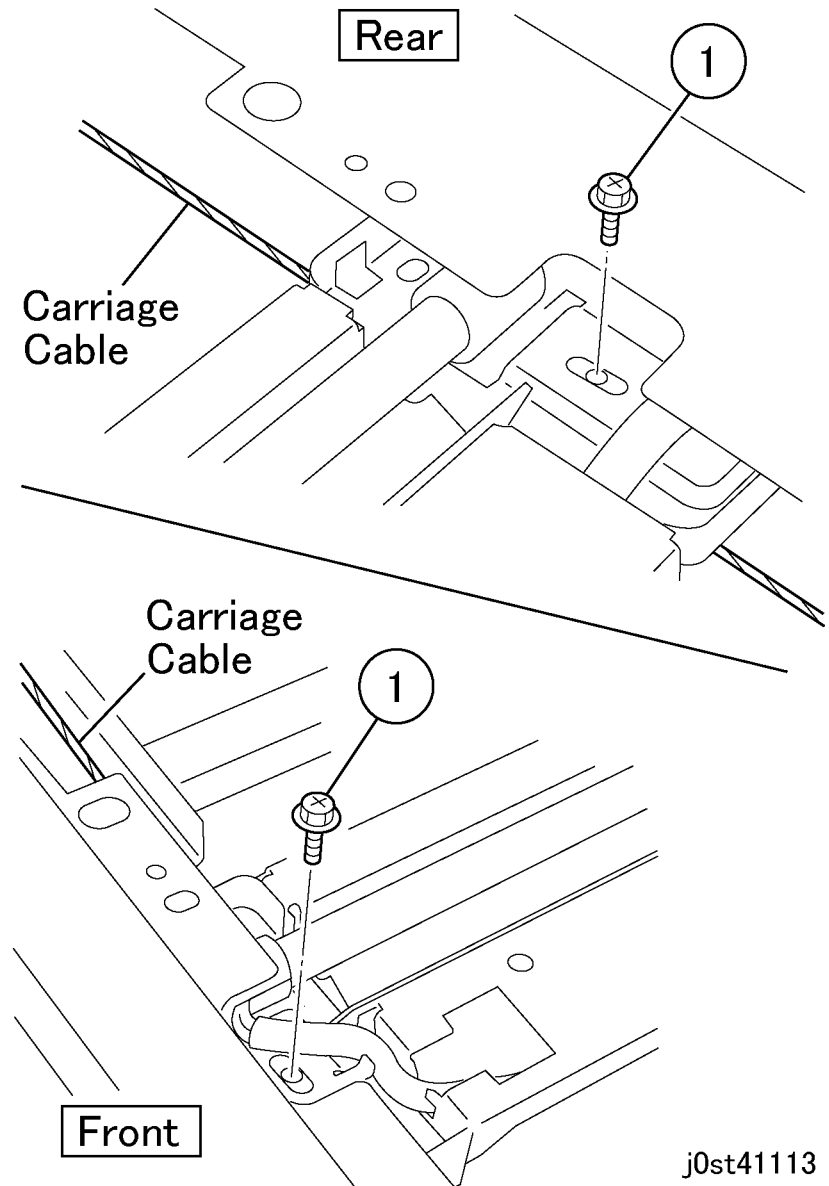

Figure 3 Unfastening the Full Rate Carriage (j0st41113)
4. Unfasten the Full Rate Carriage from the Carriage Cable. (Figure 3)